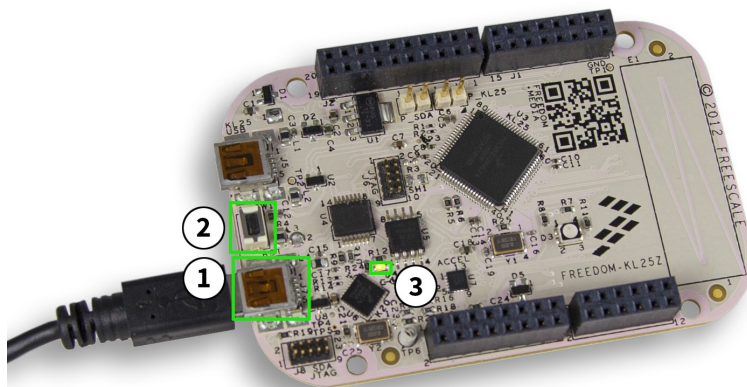

Figure 8. Freedom Development Platform KL-25Z
2. If not already done, Freescale recommends updating the OpenSDA boot loader for the Freedom Development Platform to the most recent release for that board. There are two generations of OpenSDA boot loaders in existence. Each is targeted at specific boards. Version 1.0 (also known as **P & E Micro**) boot loaders may be found at www.pemicro/opensda. Freescale recommends these loaders for the KL25Z, KL26Z, KL46Z and K20D50M boards, see Figure 8 for example of the KL-25Z.
The following procedure outlines the process for updating the OpenSDA Version 1.0 boot loader. The Version 2.0 process is similar, but uses .bin files. Consult the links above for the latest instructions. See Figure 8.